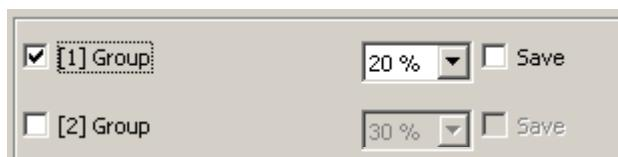

Figure 33: Part of the group assignment of a scene
All groups can be assigned to a scene without any restrictions. Each group can be independently assigned by activating the check box in front of the scene configuration (cf. Figure 33). Groups that have not been activated by the check box are not assigned to the scene. All groups of the DALI Gateway that are not created are masked in grey and cannot be edited.
- Activate the "Save" check box for the DALI groups in the "Scene - [x] Scene name" parameter node that are to respond to the memory function (cf. Figure 33).
- Deactivate the "Save" check box for the DALI groups in the "Scene - [x] Scene name" parameter node that are to respond to the memory function (cf. Figure 33).